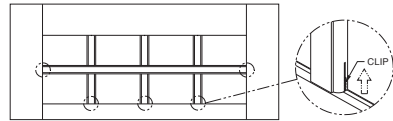

Fig. 1
- Squeeze the clips and slide them toward the center of the window (Fig. 1).